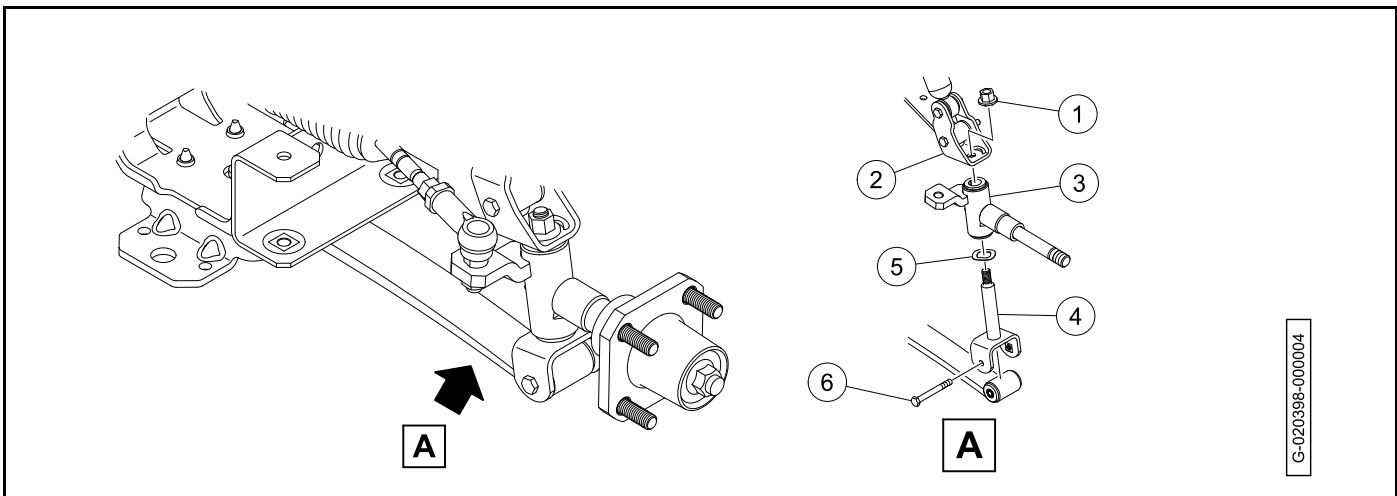

Figure 7-17
5. Remove the front hub (2).
6. Remove the retaining nut (3).
7. Remove tie rod end (4) from the tabs (5) on the spindles.
8. Remove the nut (1) (**Figure 7-17, Page 7-14**).